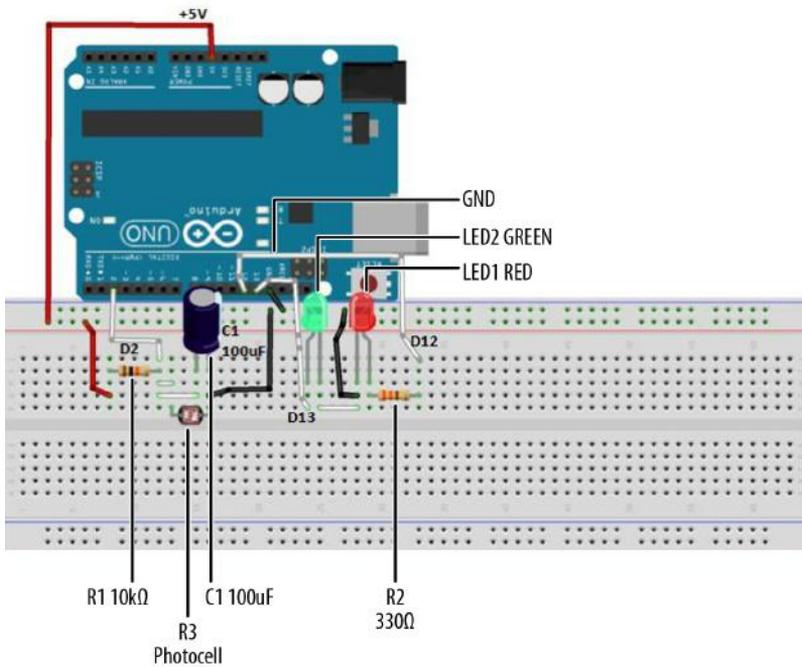

Figure 2-2. Sunrise-Sunset Light Switch Fritzing diagram
2. Wire the electronic parts using the Fritzing diagram of Figure 2-2 or the actual Sunrise-Sunset Light Switch device shown in Figure 2-1.